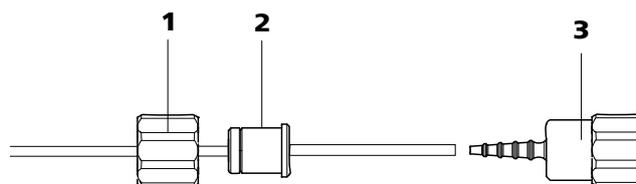

Figure 30 Install pump tubing connection without filter
- **Case B:** a 6.2744.160 pump tubing connection **without filter** (see Figure 30, page 53).